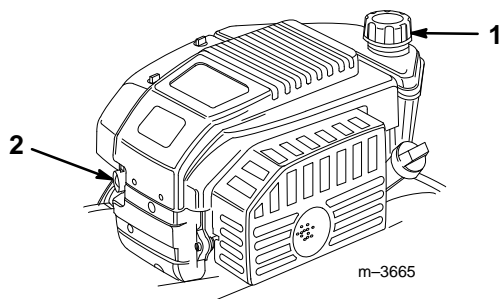

Figure 10
2. Clean around the fuel tank cap (Fig. 10).
3. Remove the fuel tank cap (Fig. 10).
2. Push the primer three times, waiting two seconds between each push (Fig. 10).